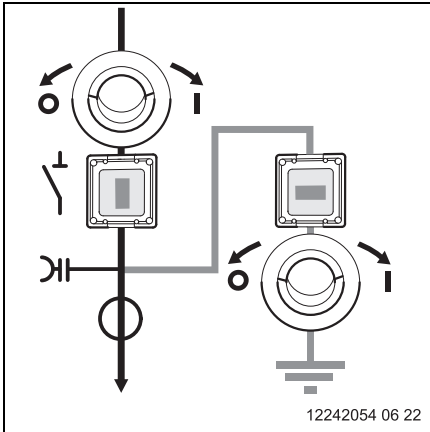

Fig. 54
**1** Switch position with activated disconnecter and deactivated earthing switch (Fig. 54),